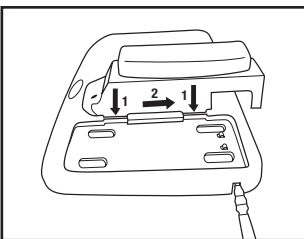

Fig. 1b
- 3M™ 4-Station Battery Charger TR-944N: Insert the 3M™ Battery Charger TR-640 into one of the charging ports on the TR-944N and slide back to lock into place. (Fig. 1b). (**NOTE:** the TR-941N power cord is not used with the TR-640, when the 4-station charger is used.) Insert the DC supply cord supplied with the kit into the 4-station base. Plug the power cord into an AC power source (100-240V), such as a wall outlet. You may charge any combination of up to four 3M™ Battery Packs simultaneously.